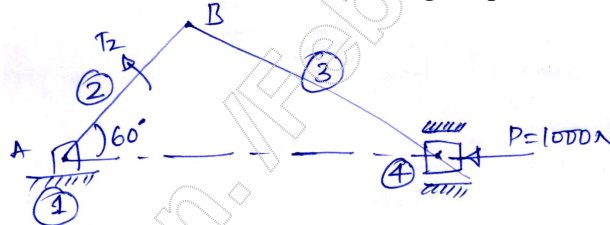

Fig.Q1(b)
- b. A slider crank mechanism is shown in Fig.Q1(b). The force applied to the piston is 1000 N when the crank is at 60° from IDC. Calculate the driving torque T_2 .